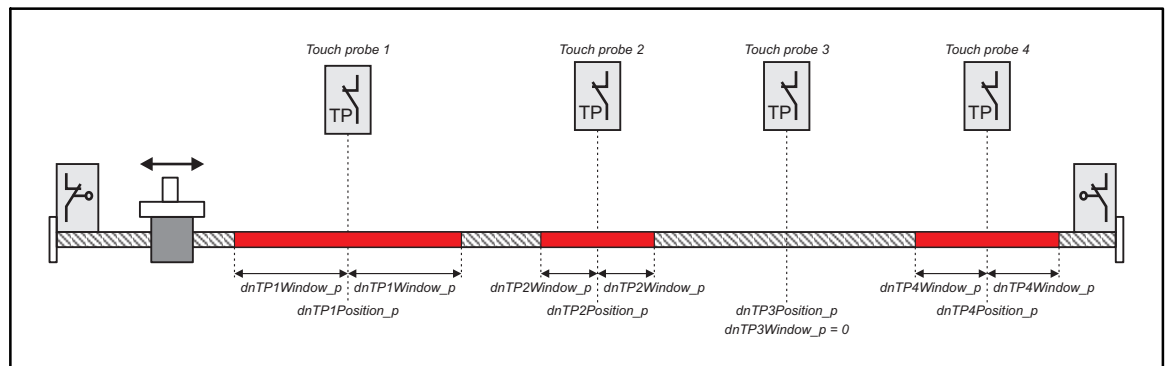

Fig. 2-19
- If the window size is set to 0 [inc] the touch probe channel will be processed independently of the actual position. (See Fig. 2-19, touch probe 3)